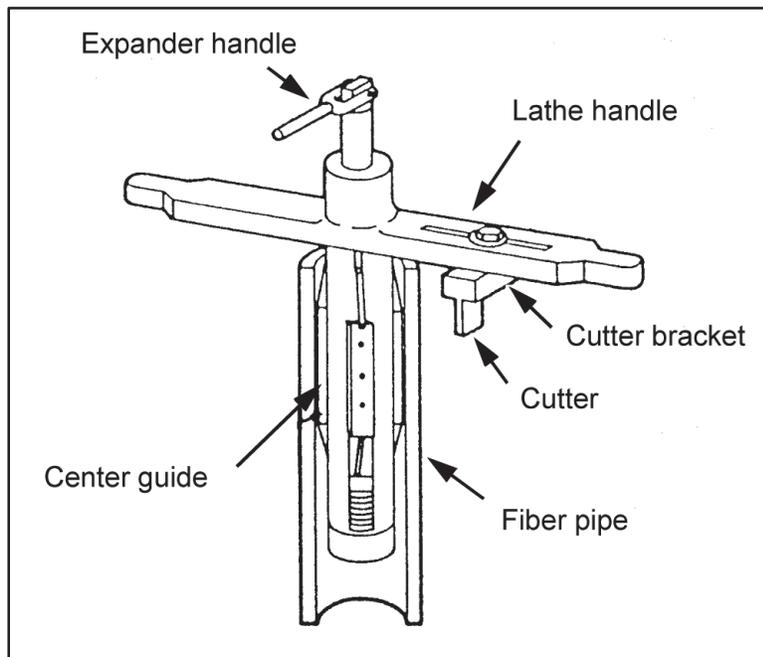

Figure 6-49. Fiber-pipe tapering tool
- Step 2.** Insert the center guide of the tapering tool (figure 6-49, page 6-38) into the pipe until the cutter bracket rests on the end of the pipe.